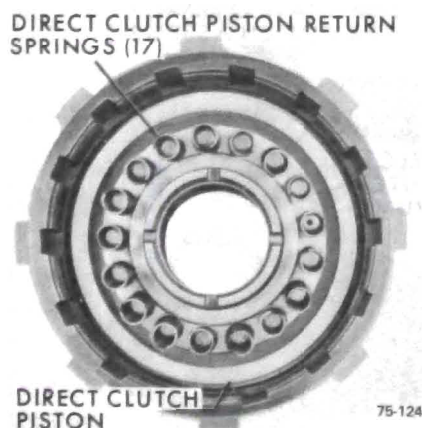

Figure 75-175
9. Remove seventeen (17) clutch return coil springs and piston. See Figure 75-175.